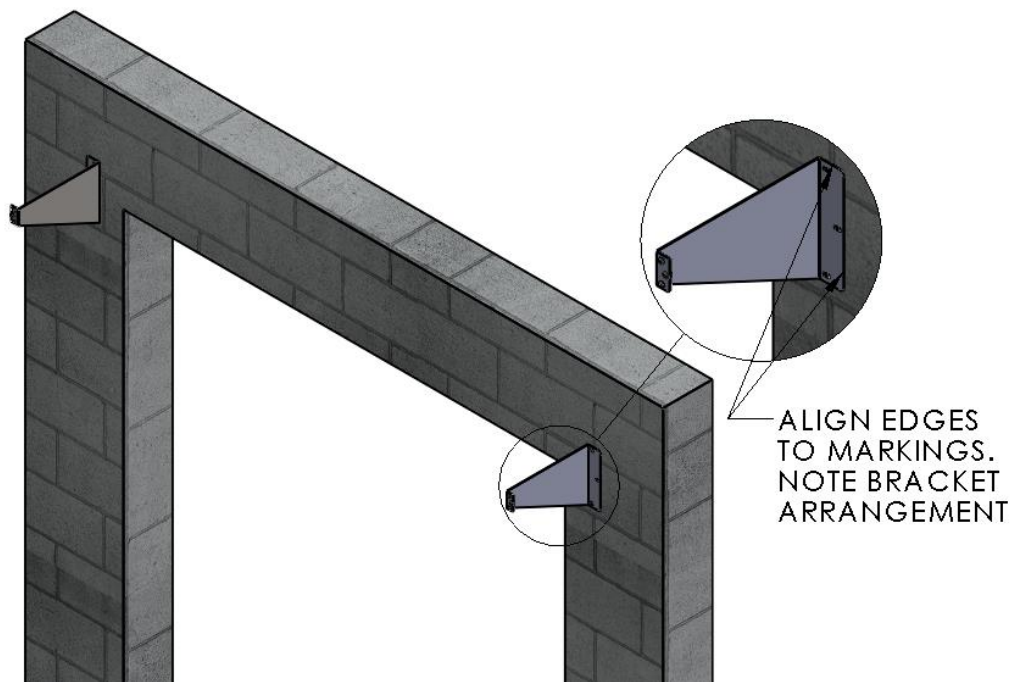

Figure 5 LOCATE/INSTALL HEADER OFFSET MOUNTING BRACKET
1. Using the wall end of one of the Header Projection Mount Brackets, trace the insides of its oval mounting slots onto the wall mount surface (a Sharpe permanent marker works great for this). Be sure that its flange is facing outward, that its Top edge is on the height line, and that the outer edge is on your vertical overall width line. (Figure 5 LOCATE/INSTALL HEADER OFFSET MOUNTING BRACKET)
2. Predrill through the centers of the traced locations for the mounting hardware, three (3) pilot holes on each side. Using adequate mounting screws or bolts (depending on your building/surface material) attach the header offset brackets to each side of the opening. (Figure 5 LOCATE/INSTALL HEADER OFFSET MOUNTING BRACKET)